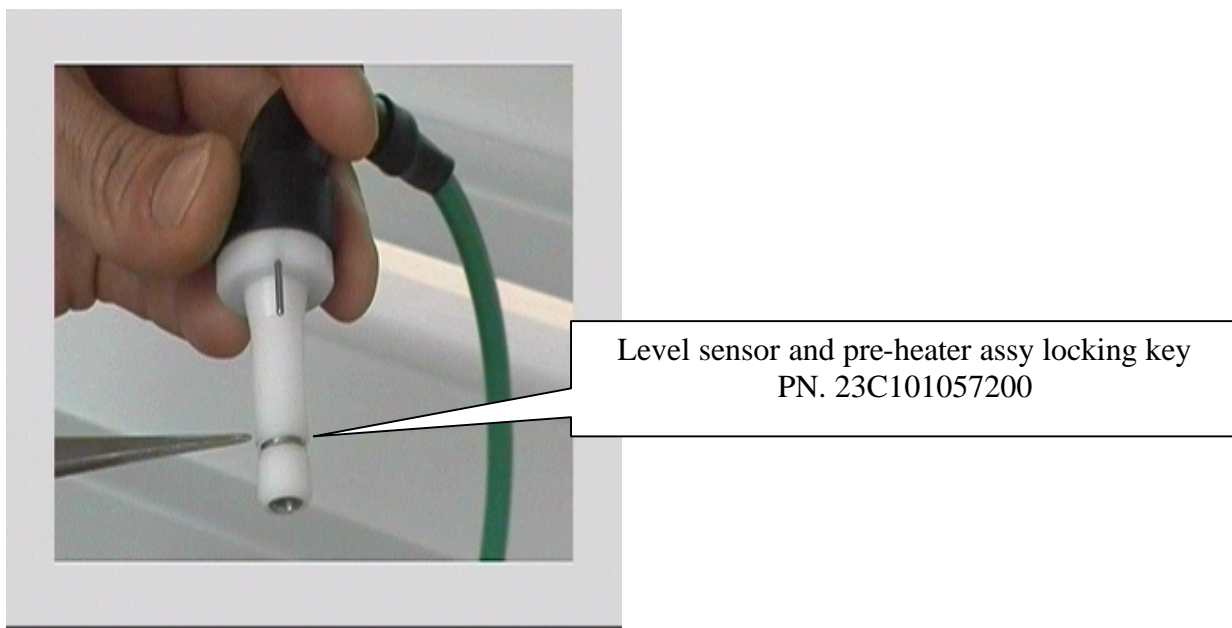

Fig. 7
10. Remove the Pre-heater assembly (Fig.7) and (Fig.8), making sure that the blocking pin remains in place.